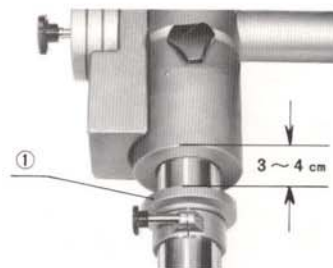

Fig. 12
- 2) Clamp the drop prevention ring ① 3cm to 4cm lower than the collar. (Fig. 12)